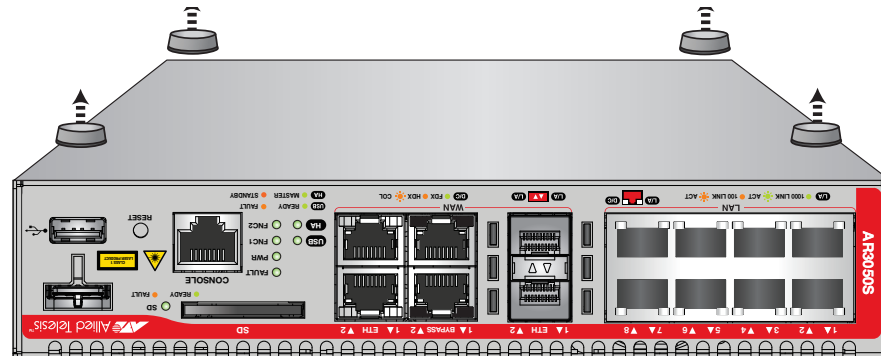

Figure 6. Removing the rubber feet
2. If rubber feet are attached to the base of the router, remove them by prising off with a flat-head screwdriver, as shown in Figure 6, then turn the router back over.